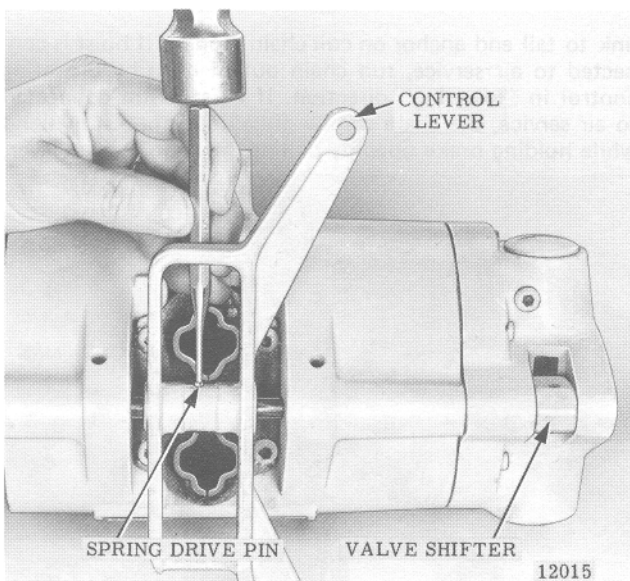
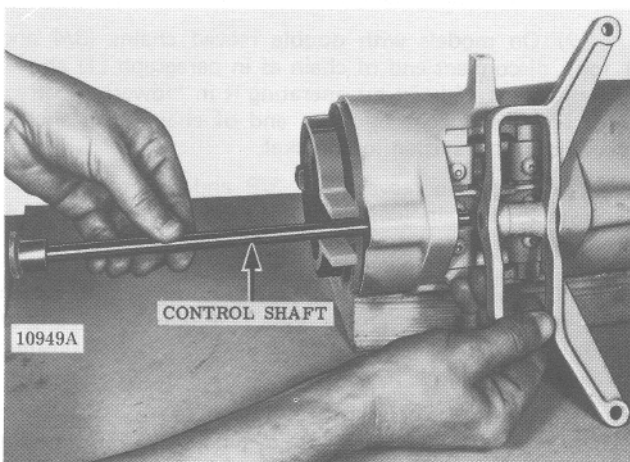

Figure 7-2. Driving Spring Pin from Control Lever and Shaft.
Figure 7-3. Removing Control Shaft.
(1) On pendant throttle control models, for convenience, disconnect control hoses from air cylinders, open strain cable "S" hook at eye bolt on throttle housing and remove pendant throttle control assembly from hoist. Refer to paragraph 7-6 for disassembly and reassembly of pendant throttle control.
(2) Remove two screws securing brake housing cover to frame and lift off cover.
(3) To remove control lever and shaft, drive spring pins from control lever (Figure 7-2) and valve shifter at end of shaft using a drift punch. Lightly tap valve shifter end of shaft and withdraw shaft by pulling on brake cam end (Figure 7-3). As shaft is withdrawn, control lever will fall free.